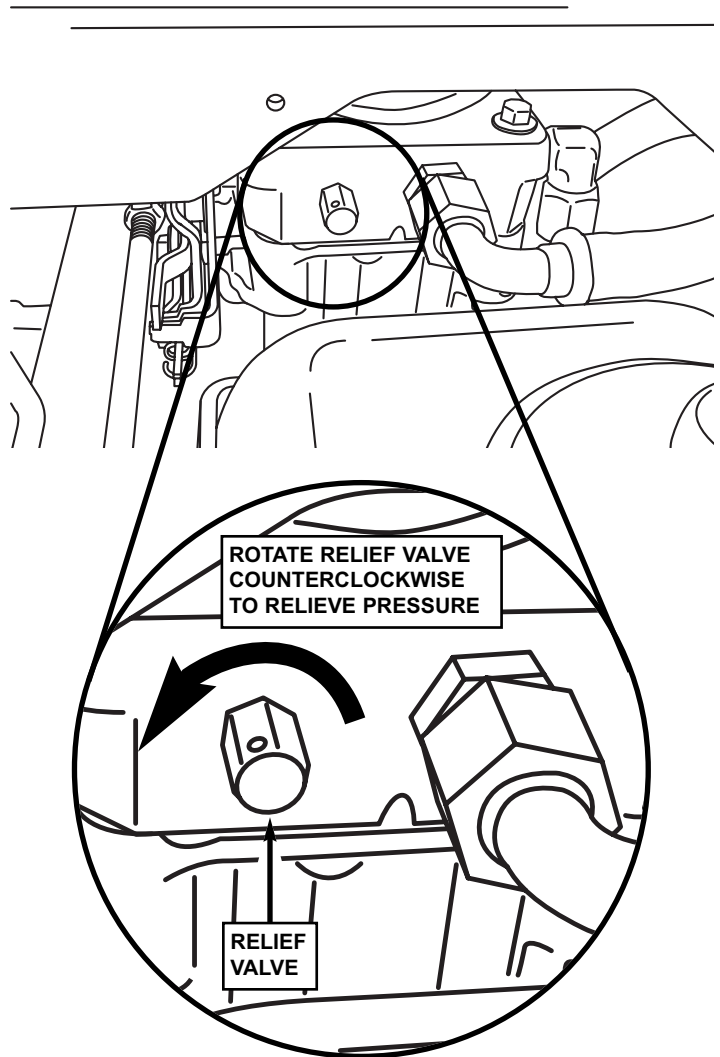

FIGURE 8
B. Open pressure relief valve on hydraulic pump, turning counter clockwise 2 full turns. See Figure 8.